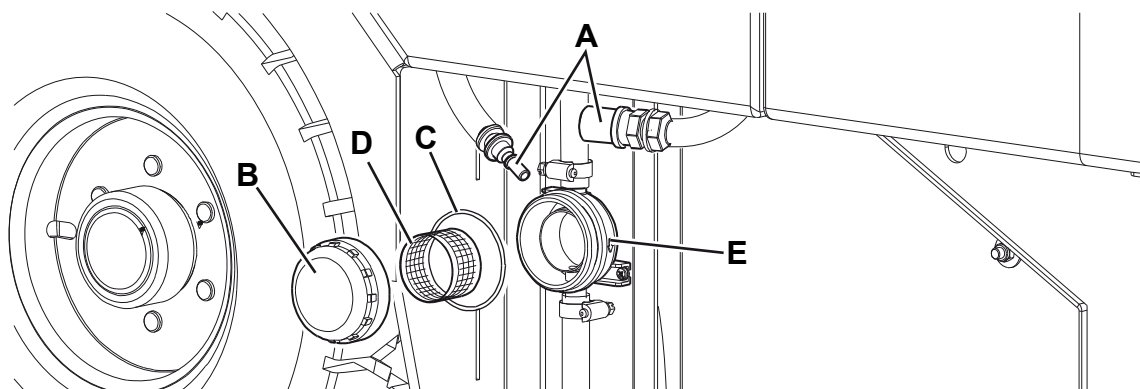

Figure 7
1. Drive the machine on a level floor, engage the parking brake and turn the ignition key (65) to "0".
2. Disengage the quick coupling (A, Fig. 7) from the tank hoses.
3. Remove the left panel (2) to reach the water filter (30).
4. Remove the transparent cover (B) with the gasket (C), then remove the filter strainer (D). Clean and reinstall them on the support (E).